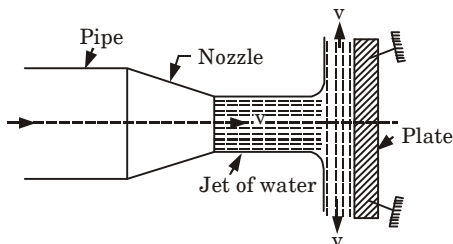

Fig. 4.1.1. Force exerted by jet on vertical plate.
1. Consider a jet of water coming out from the nozzle, striking a flat vertical plate as shown in Fig. 4.1.1.